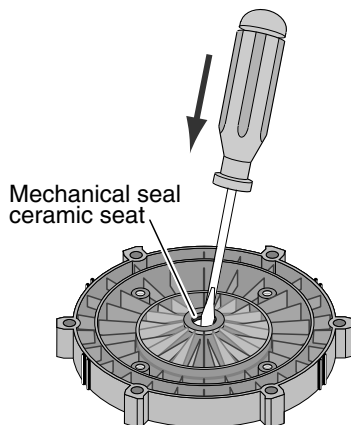

Figure 6
2. Remove trap cover and use low pressure air to blow accumulated water from the piping system. Use a pry bar or board to remove trap covers that have been overtightened or have taken a set and cannot be removed by hand. Lugs have been provided on the trap lid to use a lever or pry bar for loosening (see Figure 6).
9. Place seal plate face down on flat surface and tap out ceramic seat (Figure 6).